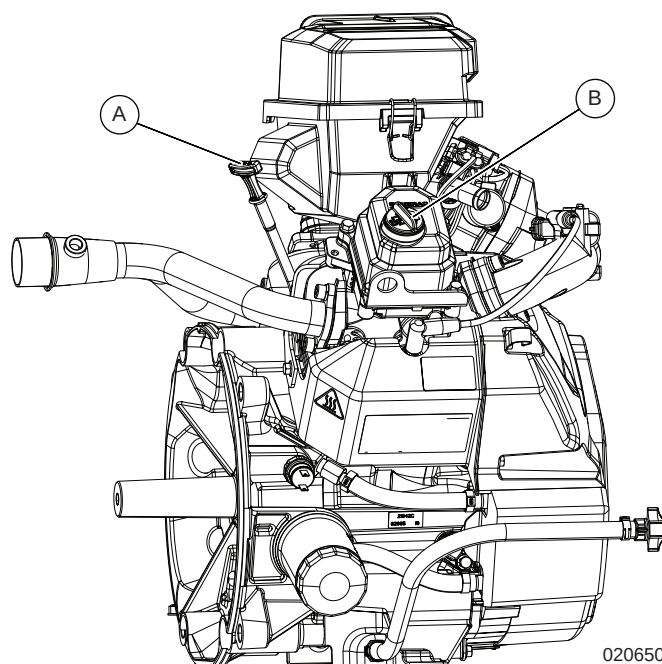
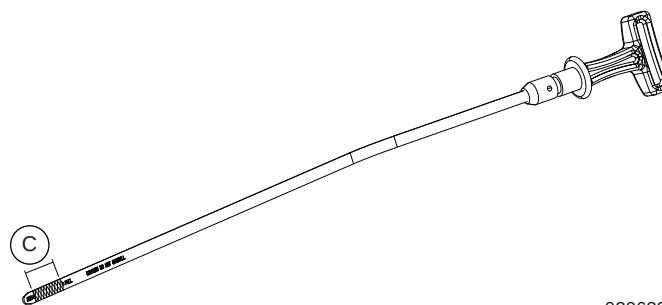

Figure 11-2. Oil Fill/Oil Dipstick Location
Figure 11-3. Oil Dip Stick Fill Indication
1. See Figure 11-2. Remove oil dipstick (A) and wipe it dry with a clean cloth.
2. See Figure 11-3. Insert oil dipstick completely, then remove. Oil level (C) should be at the FULL mark.
3. See Figure 11-2. If necessary, add oil through location in rocker cover until the FULL mark is reached. Do not fill above the FULL mark.
- a. Locate oil filter (E).
4. See Figure 11-2 and Figure 11-3. Remove oil fill cap and insert a clean funnel into oil fill opening (B). Fill crankcase with recommended oil until oil level is at FULL mark (C) on oil dipstick (A).